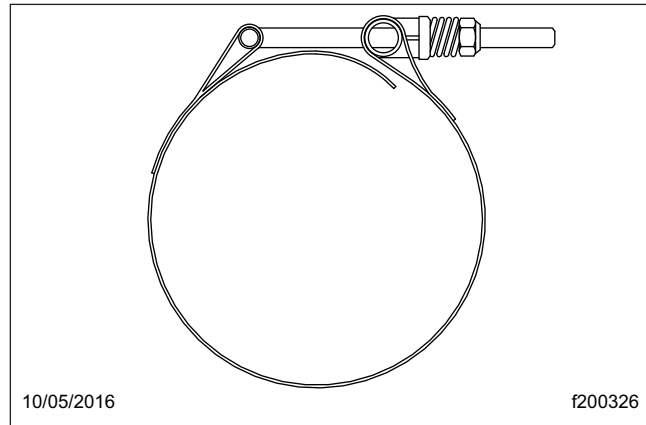
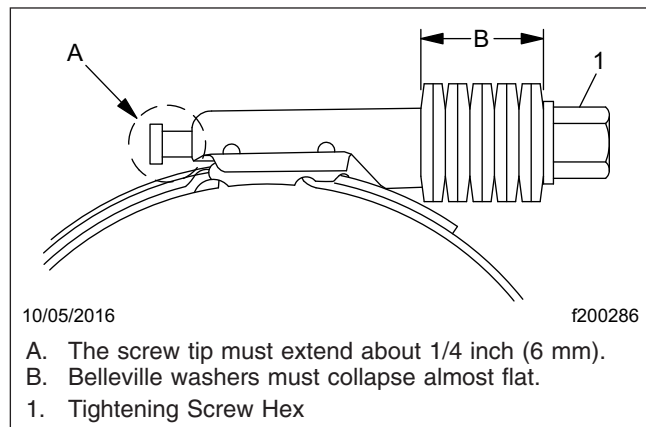

Fig. 2, T-Bolt Type Hose Clamp
Fig. 3, Breeze Constant-Torque Hose Clamp Installation
10. Connect the hoses. Your hose clamps can be either T-bolt clamps (see Fig. 2) or Breeze Constant-Torque clamps (see Fig. 3).